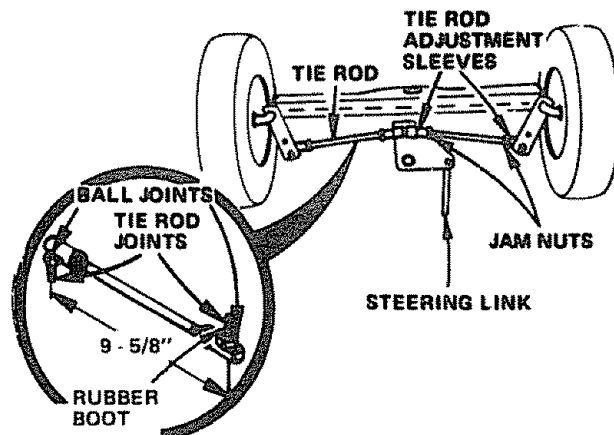

FIGURE 46
- Loosen Jam Nuts (Fig. 46) at each end of Tie Rod Adjustment Sleeves.